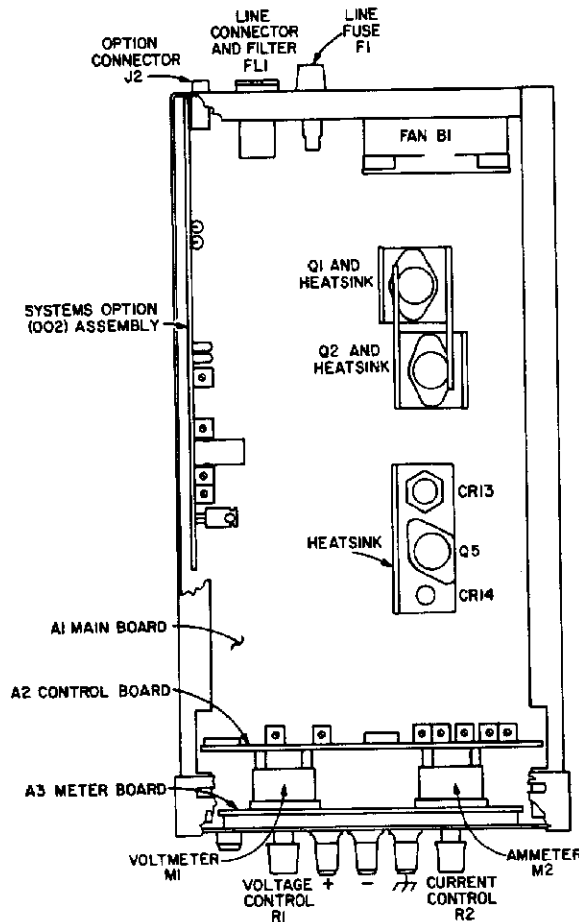

Figure 7-1. Top View, Cover Removed
a. Component location diagrams (Figures 7-1 through 7-3), showing the physical location and reference designators of almost all electrical parts. (The four front-panel LEDs are mounted on the A3 Meter Board and are identified by lettering on the board and front panel.)